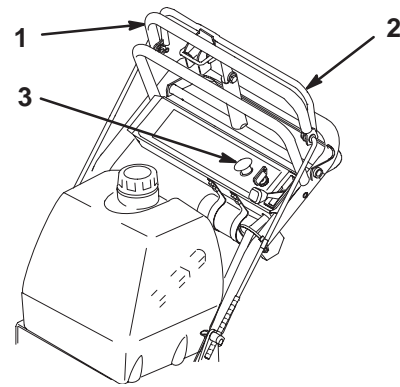

Figure 15
1. Release the upper control bar to stop the machine (Fig. 15).
2. To engage blade, squeeze blade control bail against upper control bar (Fig. 15).
1. Release the blade control bail to disengage blades (Fig. 15).